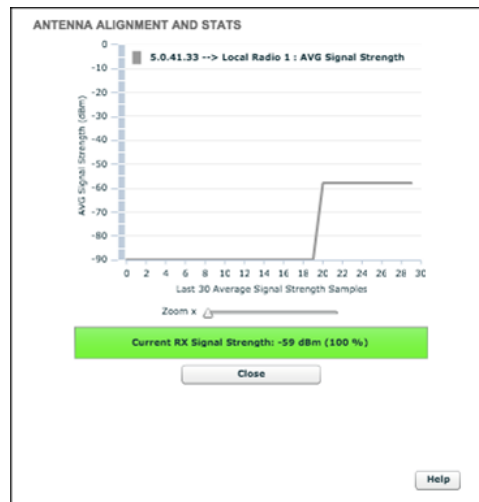

Figure 28. Antenna alignment and stats tool
- The **ANTENNA ALIGNMENT AND STATS** tool will be shown (Figure 28 (page 70)).